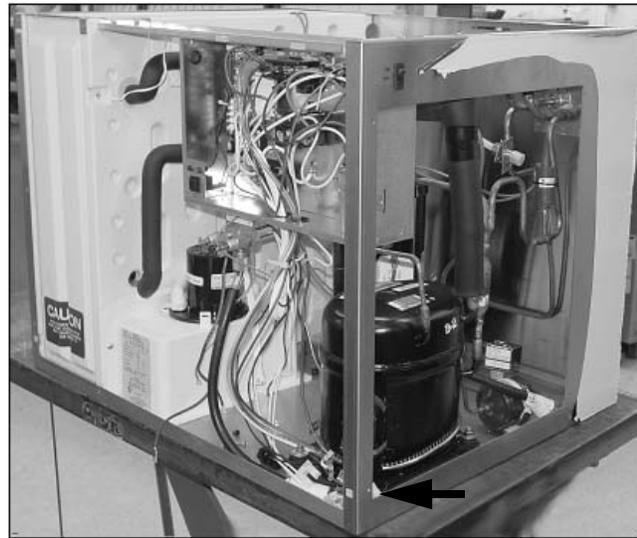

Figure 21.
14. Drill out the rivet attaching the right side panel to the base (Figure 21) A 1/8" drill bit is recommended.